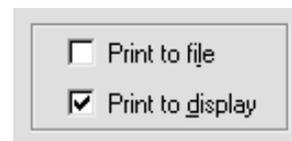

Figure 11. Checkboxes.
- **Checkboxes** (Fig. 11) are another common feature, allowing one or more of the options to be selected at the same time.